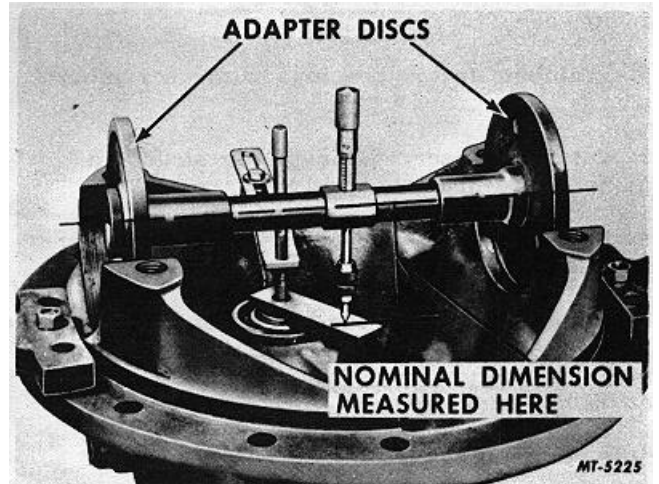

Fig. 15 Assembled Gauge in Position
17. Mount assembled SE-1065 gauge in bearing bores of carrier (Fig. 15). See "SPECIFICATIONS" for correct disc size.